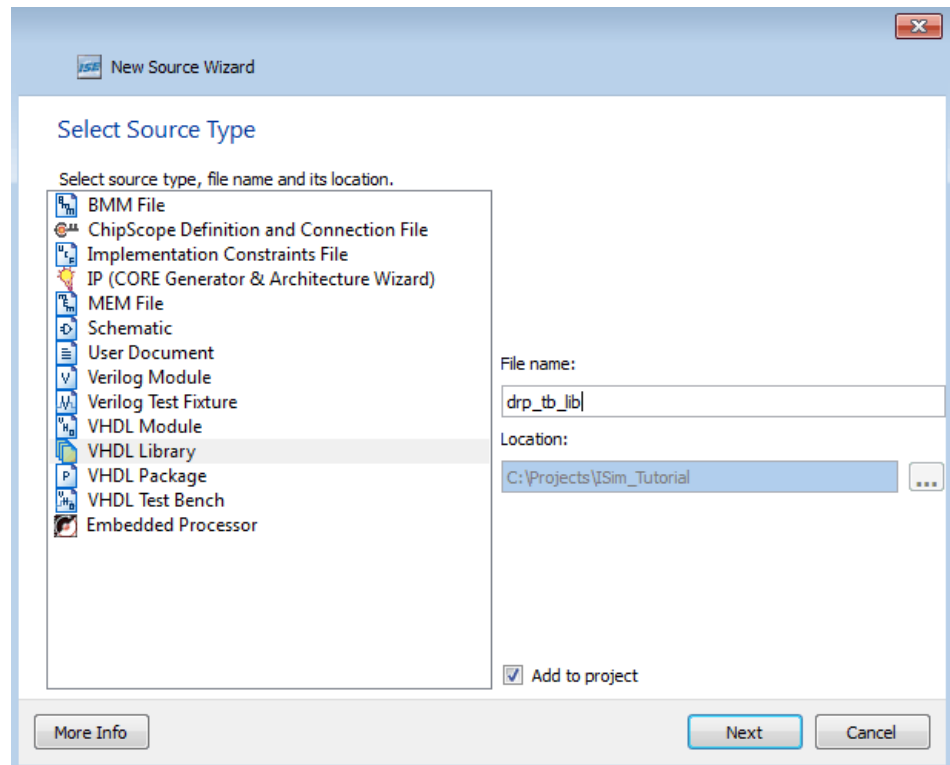

Figure 2-7: Select Source Type
3. Type **`drp_tb_lib`** for the VHDL library name. (Refer to Figure 2-7).